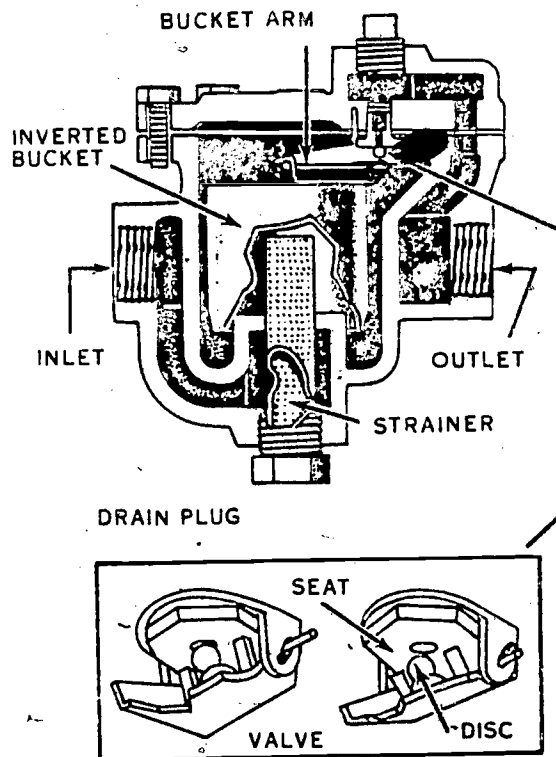

Figure 56. An inverted bucket trap.
12. *Bucket trap.* There are two types of bucket traps, the upright and the inverted. An example of the inverted bucket trap is illustrated in figure 56.